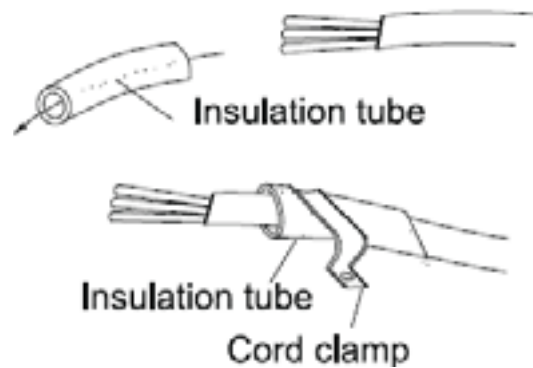

Fig. 26
- 4) Position the round terminal wire, and replace and tighten the terminal screw with a screwdriver.(Fig. 26)
After passing the connection cord and power cord through the insulation tube, fasten it with the cord clamp.(Fig. 26)